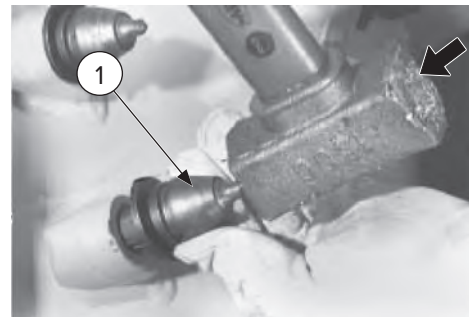

Figure 26
2. Insert the tooth [Figure 26, Item 1] into its holder using light blows with a copper hammer until the tooth top is fully inserted.